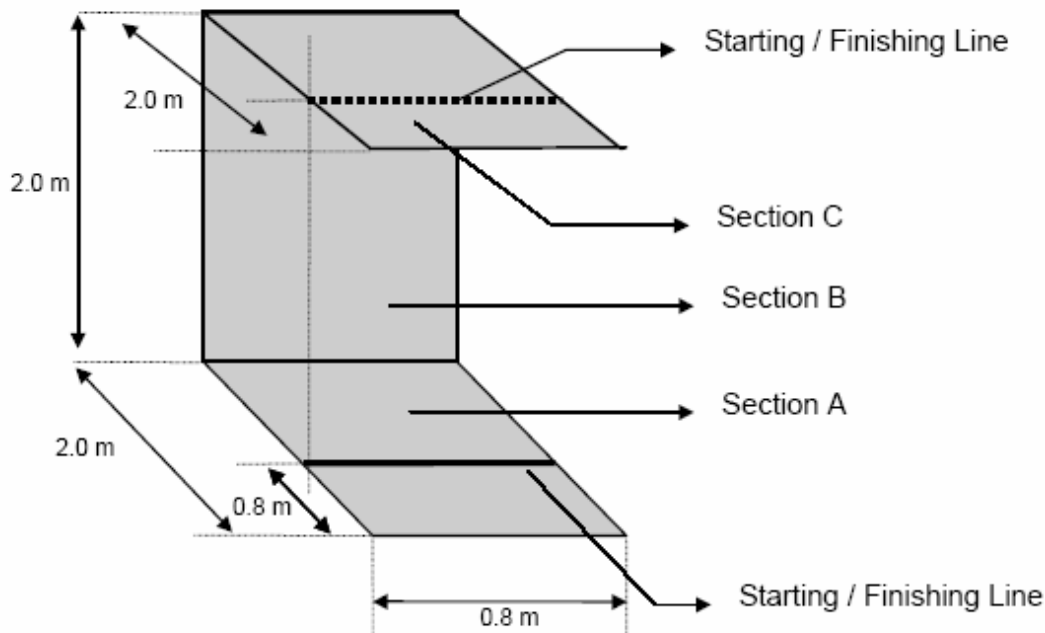

Figure 1: The wall for the wall-climbing robot race
2.1 The wall is shown in Figure 1. It consists of three sections: a two metres long horizontal section (section A) on the ground followed by a two metres high vertical section (section B) followed by a two metres long horizontal section (section C) at the top, with each section at least 0.8 metre wide. The following tolerance will be applied:
The wall will be deemed to have satisfied criteria (a) and (b) above and be considered fit for use if each of the two distances between diagonally opposite corners (using the side view in Figure 1) lies in the range 2733 mm to 2847 mm.
- 2.4 The supporting structure for the wall will have provision for two safety cables to be attached to the robot so that both cables can be used simultaneously during the race (not shown in Figure 1.)